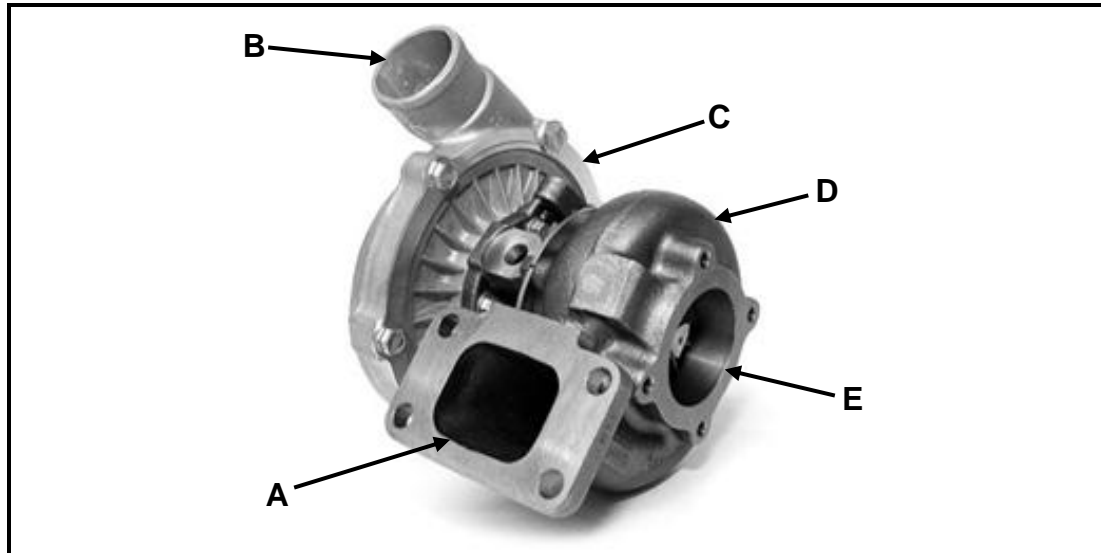

FIGURE 6.2
- 6.2 FIGURE 6.2 below shows a component that is fitted to an internal combustion engine to increase the power output. Answer the questions that follow.
- 6.2.1 Identify the component shown in FIGURE 6.2. (1)
- 6.2.2 Label A–E, the parts of the component in FIGURE 6.2. (5)
- 6.2.3 State the main function of the component in FIGURE 6.2. (1)